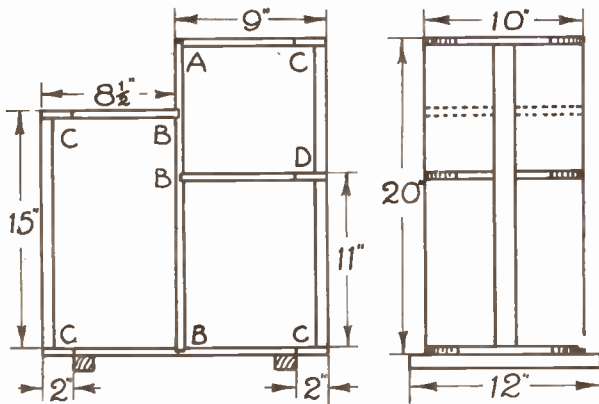
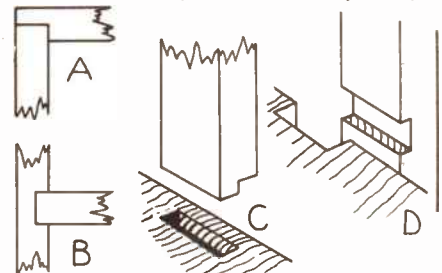

Fig. 1—Side and end views.
Fig. 2—Details of the joints.
Two Hobbies Furniture Panels No. S8 are required, but there will be a little left over for other work. The 20in. piece is cut from one panel, and the 17½in. base from the other. The rest of the parts are then set out. Reference to side and end views at Fig. 1 will help with this part of the work.
Preparing the upright rails is the next part of the job. Selected 1½in. by ½in. hardwood is obtainable from Hobbies and Agents. Although the lengths between shoulders are 19ins. and 14½ins., it is best to check them by reference to the centre piece. Details of the stub tenon joints are given at (C) in Fig. 2. The tenons, which go the full width of the rails, are ½in. wide and ½in. long. Both mortices and tenons must be marked out and cut very carefully, or
At Fig. 2, details are given of the four types of joints used. The diagrams are lettered so that they can be referred to the front and end views at Fig. 1. A start can be made by marking a groove across the baseboard to take the upright centre member. This is $\frac{3}{8}$ in. deep and must be the same depth throughout its length. Before cutting the groove, its width should be checked by standing the upright piece over it. This will ensure a good neat joint.
The only joint remaining to be made is the one where the shelf meets the rail. This is shown at (D) in Fig. 2. As will be seen from the illustration, ½in. is cut away from the rail and ½in. from the shelf. The outer edge of the shelf, therefore, lies flush with the outside of the rail.